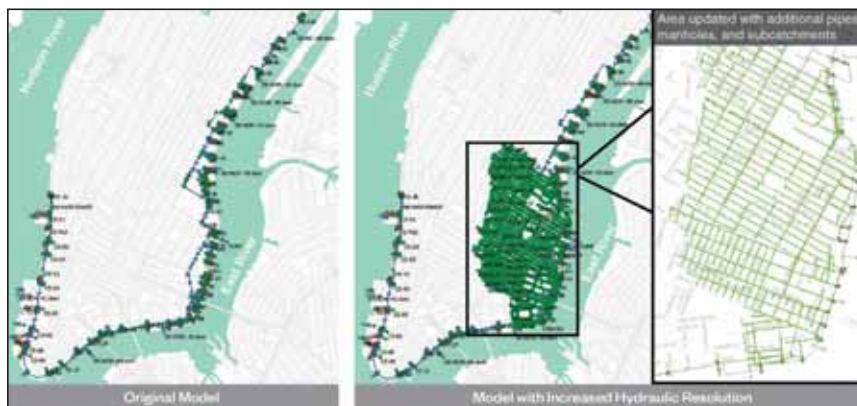

Figure 3. Enhanced pipe network resolution increases the resolution of the modeled hydraulic results.
The ESCR Project model was developed from an existing InfoWorks Collection System (CS) network, maintained by the New York City Department of Environmental Protection (DEP), and upgraded to InfoWorks ICM to provide two-dimensional flood modeling capabilities. The network of sewer pipes and manholes was significantly expanded to include virtually all infrastructure within the project's drainage area, increasing the resolution of the sewer system to include sewers as small as 18 inches in diameter for maximum modeling accuracy (Figure 3). In conjunction with the